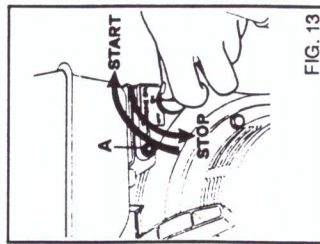

FIG. 13
- 3) Set the engine switch in ON position (fig. 13).
- 5) The warning light A (fig. 13) indicates lack of oil in the engine.
- 1) Set the engine switch in OFF (fig. 13).